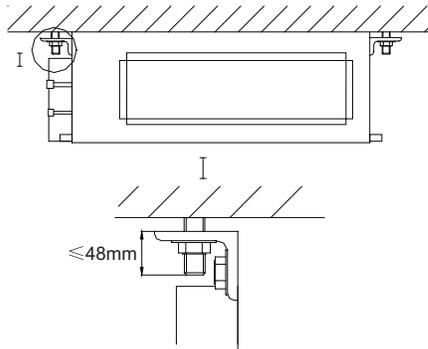

Fig. 48 – Install the indoor unit
- 3 Install the indoor unit on the ceiling, as shown in Fig. 48.